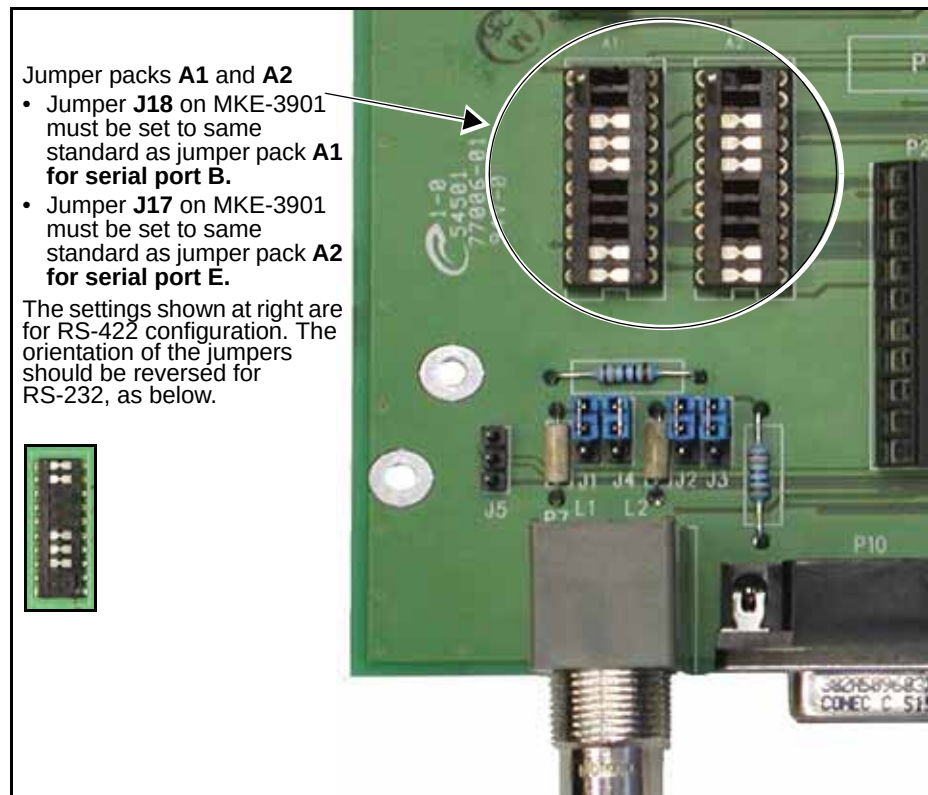

Figure 2-34. Jumper Packs on ICONM-BO-V (in RS-422 Mode)
Jumper **J17** on the MKE-3901 must be set to the same standard as jumper pack **A2**. For more information see Figure 2-34 on page 49 and Table 2-8 on page 51.
Jumper **J18** on the MKE-3901 must be set to the same standard as jumper pack **A1**. For more information see Figure 2-34 on page 49 and Table 2-8 on page 51.
1. Locate jumper packs **A1** and **A2** on the ICONM-BO-V module, as shown in Figure 2-34. Figure 2-34 shows both serial ports in RS-422.